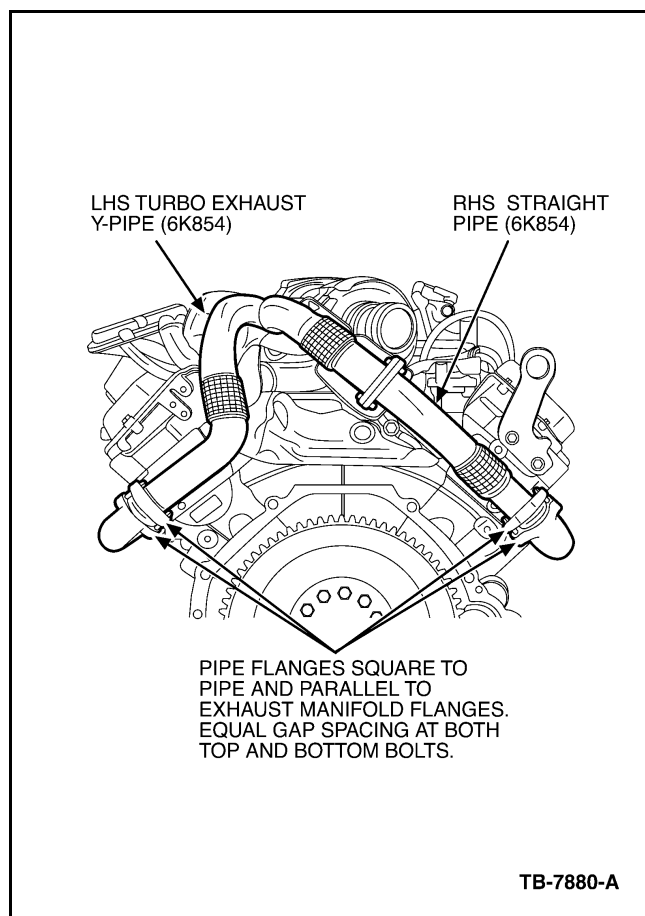

Figure 1 - Article 05-19-12
11. Check for good alignment and fit of the lower LHS Y-pipe and RHS straight-pipe flanges at the mating exhaust manifold outlets. Secure the LHS Y-pipe and RHS straight-pipe to the exhaust manifold outlets using M8 bolts (two (2) per side). Using hand tools snug fasteners evenly to position the pipe flanges square to the pipe and parallel to the exhaust manifold flanges. There should be an equal gap spacing between the pipe flange and exhaust manifold flange at both the top and bottom bolts (Figure 1).